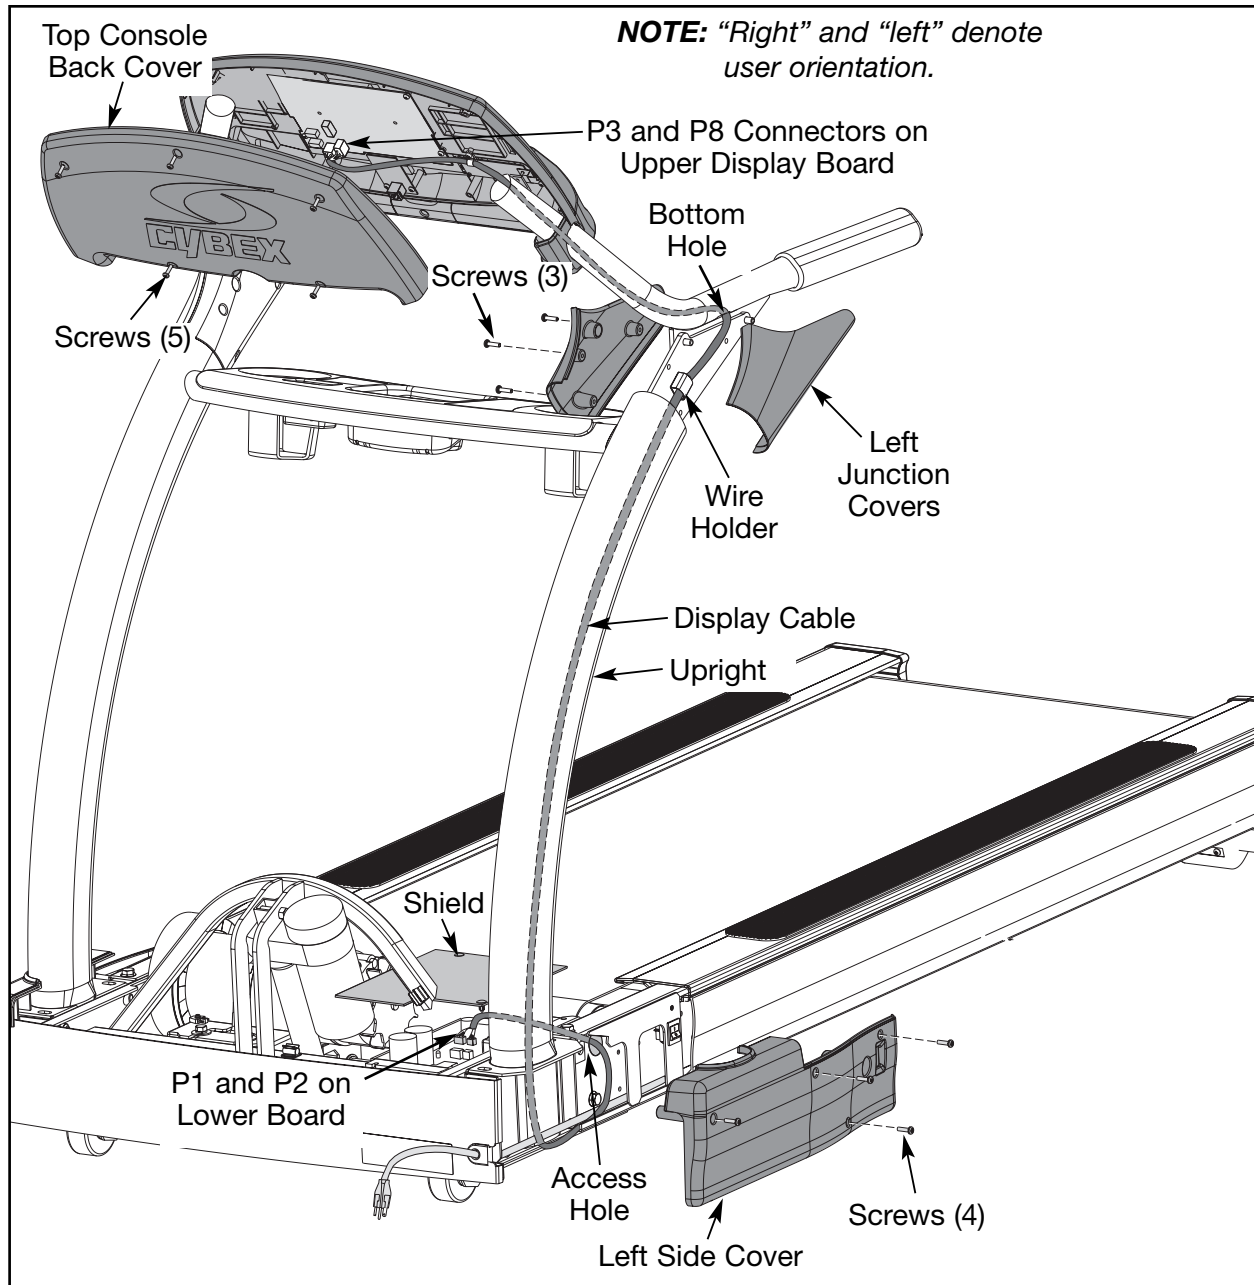

Figure 29
- C. Push the display cable down through the handrail and out the handrail's bottom hole. See Figure 29. **NOTE:** Twisting the cable as you push will help it go through.